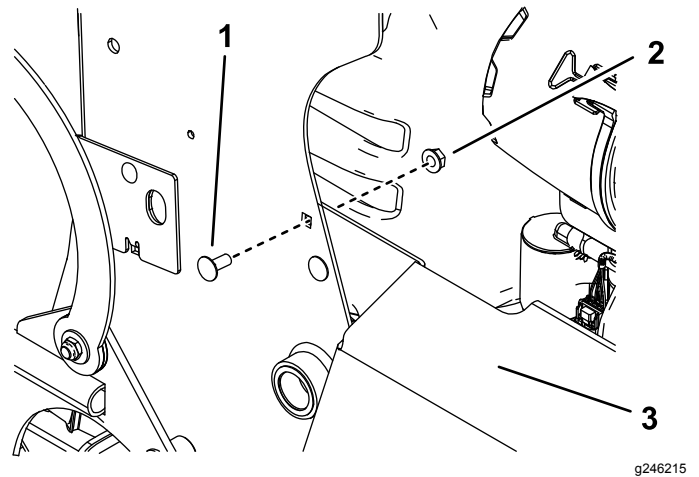

Figure 9
3. Remove the top carriage bolt and nut securing the muffler guard to the machine (Figure 9).